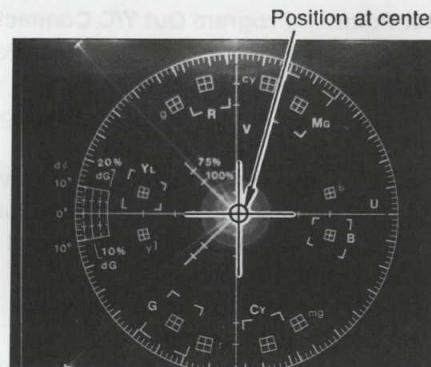

Fig. 4-12
- Adjust VR16 and VR18 so that the vector positions at the center on the Vectorscope as shown in the Fig. 4-12.